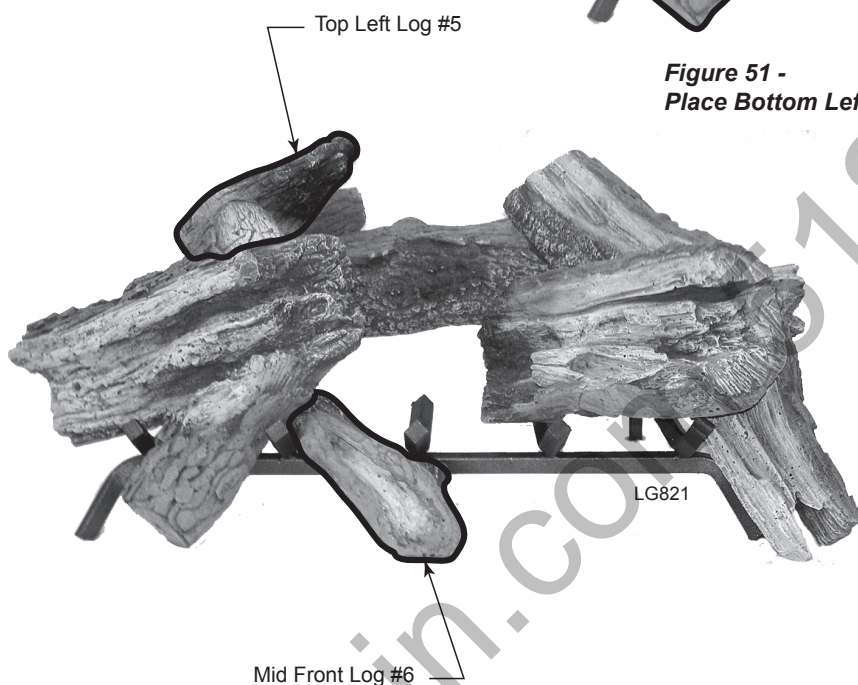

Figure 52 - Place Top Left Log #5 and Mid Front Log #6
5. Place Top Left Log #5 behind Rear Log #1 on the notch on rear left of grate stand. *Figure 52*
6. Place Mid Front Log #6 on grate between center and middle left grate bars. Fit notch on back of log on the cross grate bar. *Figure 52*